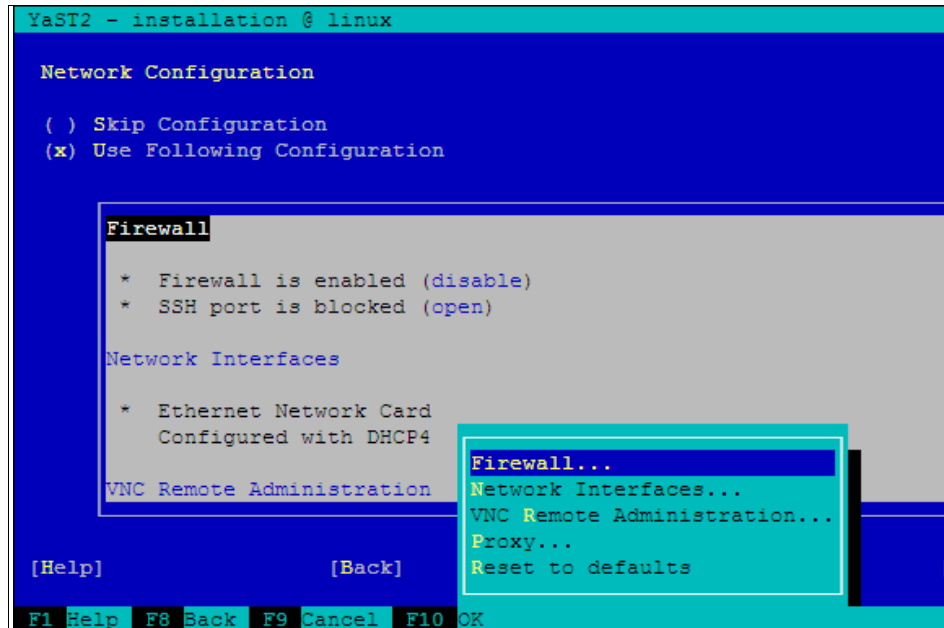

Figure 9-29 Select firewall
- a. Select **Firewall** as shown in Figure 9-29.